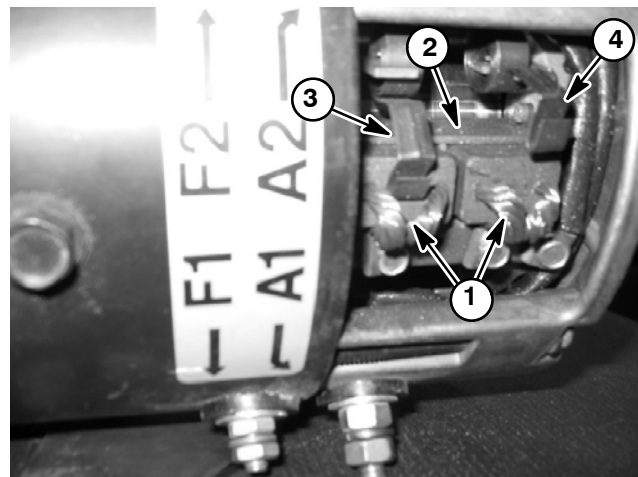

Figure 47
4. If end of brush is even with the brush holder (Figs. 47 and 49), brushes should be removed from motor for inspection and measurement (see Traction Motor Service in this section).